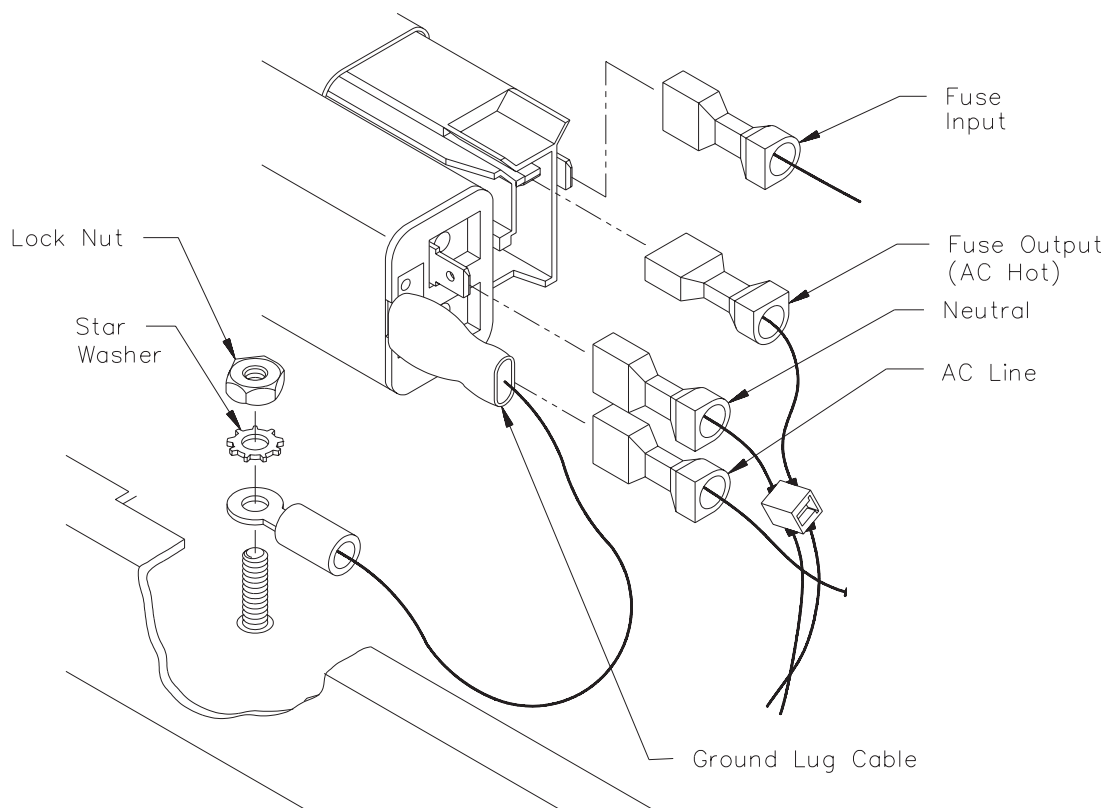

**Figure 19-1** Power entry module (cables not shown)
4. Locate the power entry module on the back of the CHS, as shown in Figure 19-1. Using a T-8 TORX driver bit, remove the two screws that secure the power entry module in the CHS. One screw is located on the right and one screw is located on the left of the module.